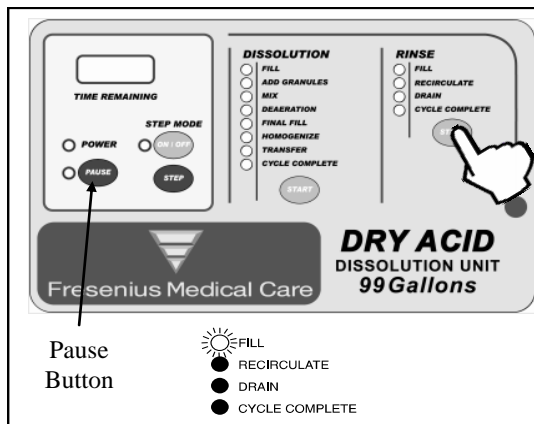

Figure 1
2. Turn the power ON and ensure that the water supply valve is OPEN then press the Rinse START button. The Fill LED will turn on indicating the RINSE Cycle has started and the DADU is in FILL Mode (Figure 1).